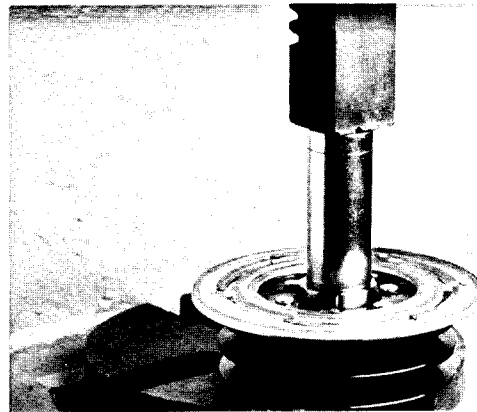

Figure 29
B. Put the armature & pulley assembly, pulley side down, in an arbor press. Press on the bearing collar to remove the bearing and collar (Fig. 29). If the bearing is removed, it MUST be replaced with a new one.